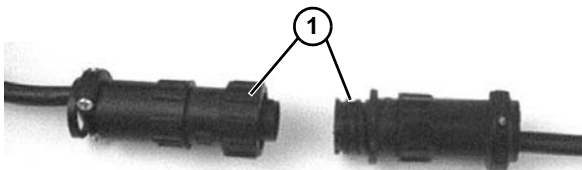

Figure 56
2. For variable speed motor, unplug cord at disconnect (**Figure 56, item 1**).